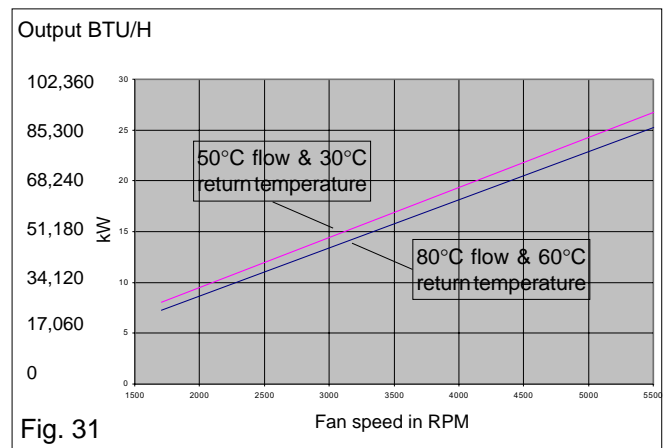

Fig. 31
- Adjust the value (LED 2) using the +/- buttons (see fig. 31).